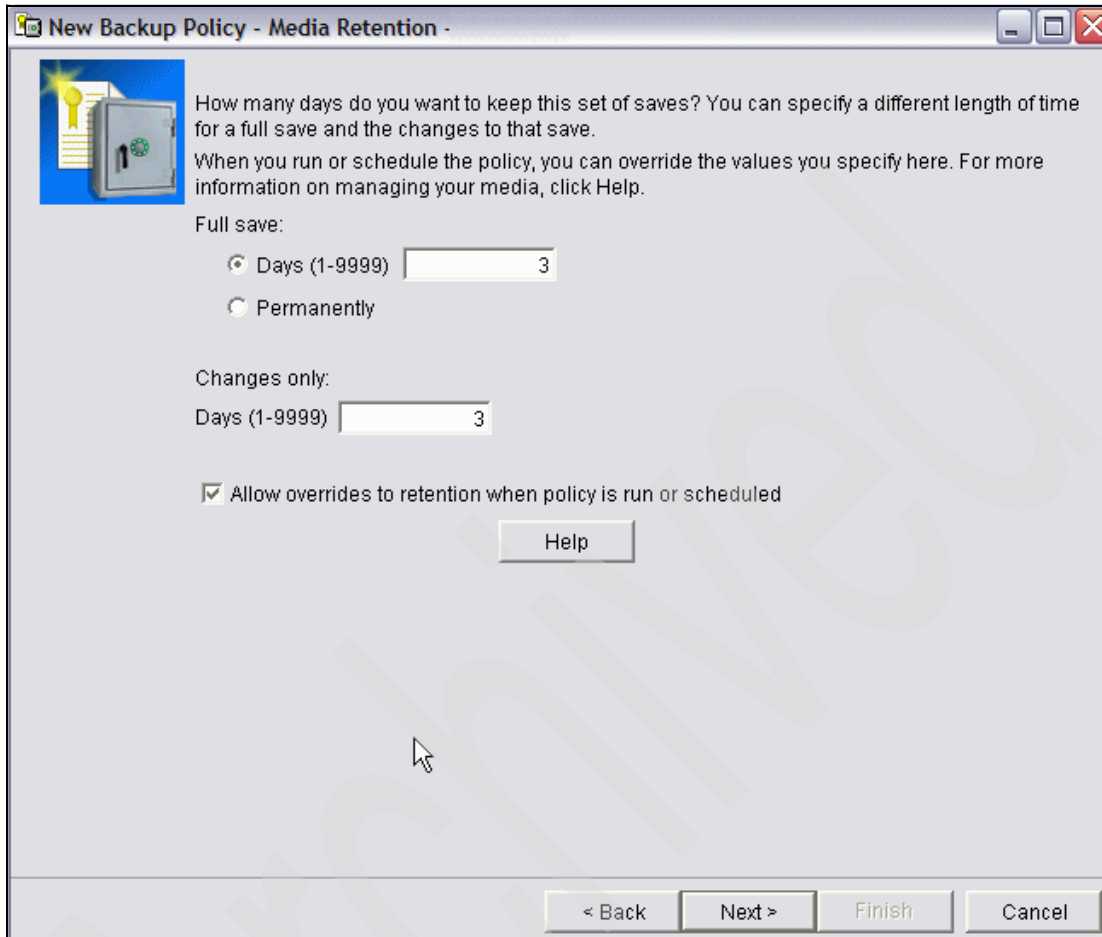

Figure 7-24 Media retention
1. In the window shown in Figure 7-24 on page 356, select **Days**. Input the value 3 for the field Days. Select **Allow overrides...**, and then click **Next**.